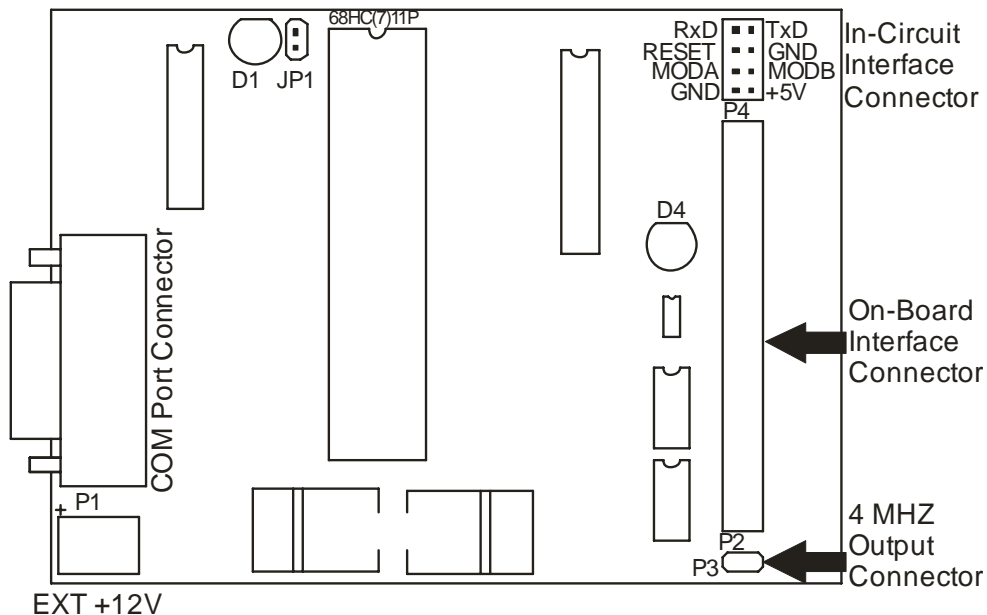

Figure 1. The HC11-Programmer board layout
The HC11-Programmer includes two LED's and mode jumper (Figure 1). LED's indicates programmer state and external power supply voltage (Table 1, 2).
- Insert jumper JP1 (see Figure 1).
- Remove JP1 (see Figure 1).
Note: When using In-Circuit programming interface remove adaptor from On-Board interface connector. (see Figure 1).
Note: When On-board programming interface used, remove cable from ICP connector (see Figure 1).
- Remove cable from On-Board connector (see Figure 1).
- Attach adaptor to OBP connector with help of cable in according to 1 pin-key (see Figure 1).
- Remove cable from ICP connector (see Figure 1).
- Remove cable from BDM ICP connector (see Figure 1).